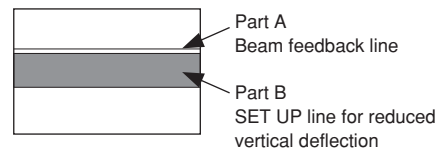

Fig. 4-6-2. SETUP ON State
To stabilize the black level over a long period of time, this monitor adopts the beam feedback clamp method which detects beam currents to perform clamping. Therefore one line (Part A in Fig. 4-6-2) is displayed on the CRT.
If the BACKGROUND is lowered so that Part B in Fig. 4-6-2 becomes invisible, the line at Part A disappears, disabling the detection of the beam current.
④ Initial adjustment of low light
- Set only the **R.SCREEN** switch to ON (red screen only), adjust the R.BACKGROUND data so that the red line at Part B in the figure 4-6-2 illuminates slightly.
- Set only the **G.SCREEN** switch to ON (green screen only), adjust the G.BACKGROUND data so that the red line at Part B in the figure 4-6-2 illuminates slightly.
- Set only the **B.SCREEN** switch to ON (blue screen only), adjust the B.BACKGROUND data so that the red line at Part B in the figure 4-6-2 illuminates slightly.
⑤ Adjusting the high light portion
⑥ Adjusting the low light portion
- ⑦ As the ⑤ and ⑥ adjustments interfere with each other, repeat them until the desired color temperature is acquired from low light to high light.
- Set the **SET UP** switch in the drawer panel to ON, and set as shown in Fig. 4-6-2.
④ Setting CONTRAST